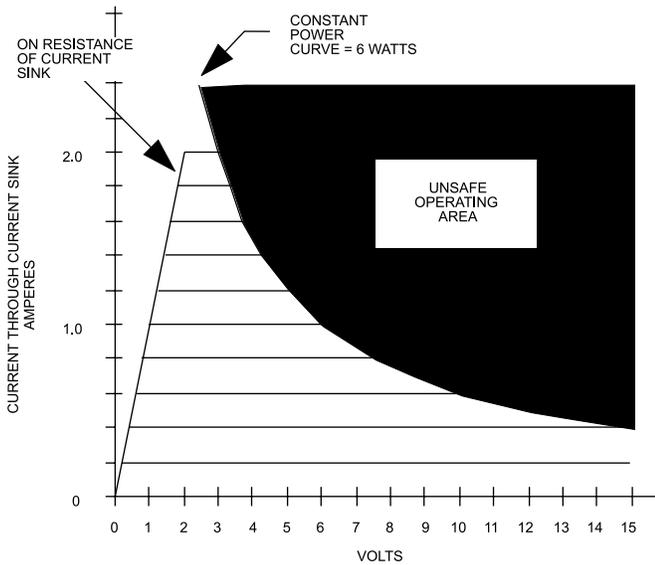

FIGURE 2
**Figure 2** illustrates the characteristics of the HY5650 power drive section. It also illustrates the unsafe operating area where the power dissipated in the device exceeds the maximum 6 Watt rating. This curve applies for both heating and cooling operation.